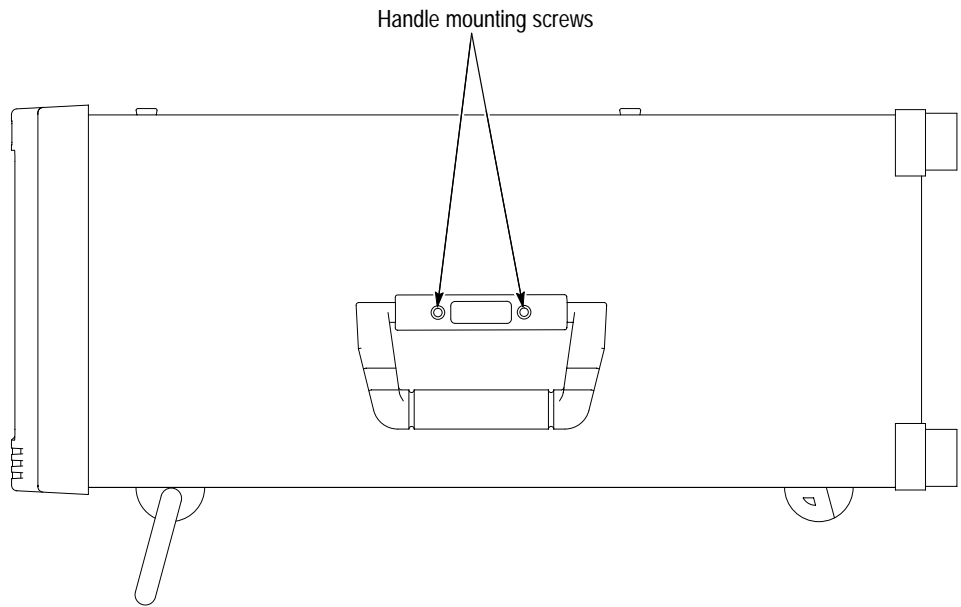

Figure 6-1: Right side handle screws
8. Position the handle on the left side of the chassis and replace the two screws that attach the handle to the chassis (see Figure 6-1).